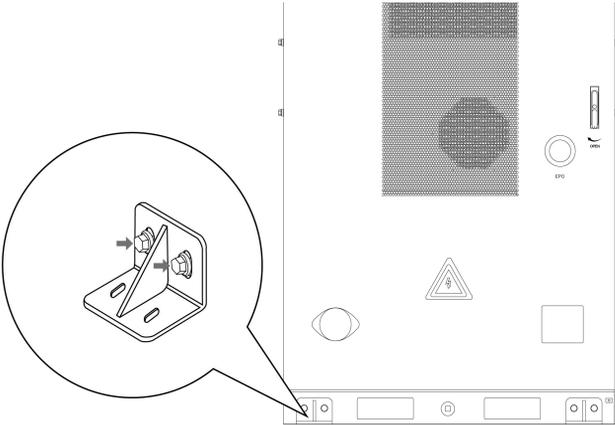

Figure.3
3. Put the equipment in place and then attach four mounting feet onto the cabinet.(Figure.3)